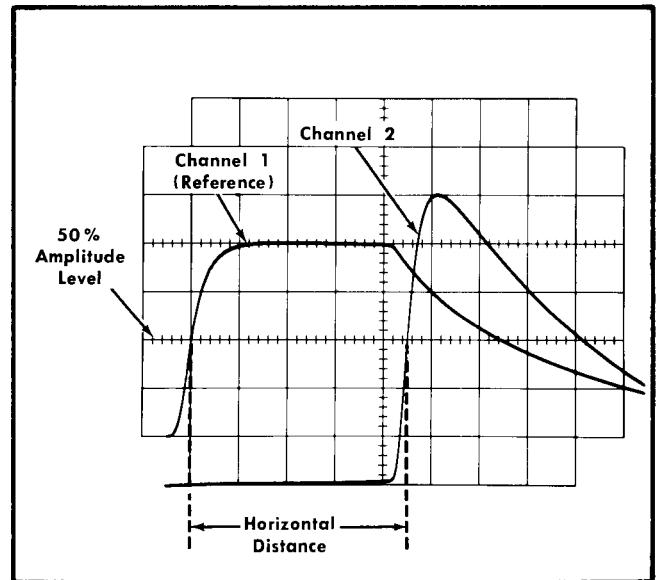

Fig. 2-17. Measuring the time difference between two pulses using a dual-trace unit and a single beam.
11. Measure the horizontal difference between the Channel 1 waveform and the Channel 2 waveform (see Fig. 2-17).
Example: Assume that the TIME/CM switch setting is 50 μSEC, the DISPLAY MAG is set to ×10 and the horizontal difference between waveforms is 4.5 cm (see Fig. 2-17). Using the formula:
Example: Assume the first dial reading is 3.28 and the second dial reading is 7.41 with the A TIME/CM switch set to 2 mSEC (see Fig. 2-17).